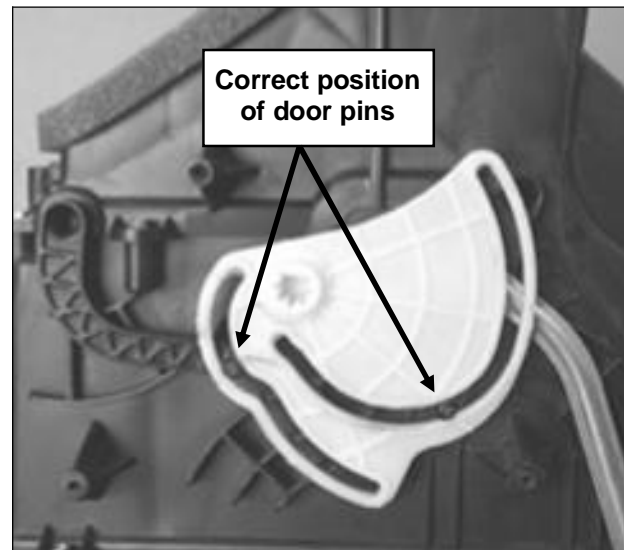

Figure 11
18. Install the new cam (see Figure 11).